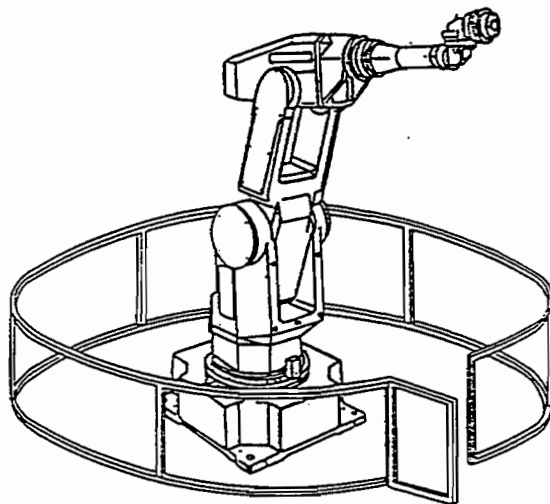

Fig. 2.1.1 Use of a fence to secure work area
- . Provide an interlocked barrier guard, such as that shown in Fig. 2.1.1, which cuts drive power to the servos when a barrier gate is opened.
- . Where possible, install safety fences, shown in Fig. 2.1.1, to protect against unauthorized entry into the work envelope.